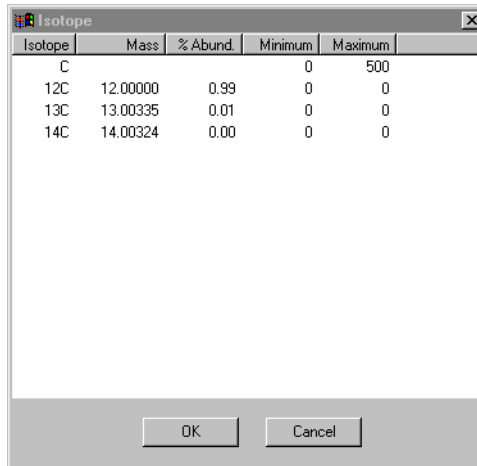

Figure 6-4 Isotope Dialog Box
2. To change the limits for an element, double-click an element to display the Isotope dialog box (Figure 6-4).